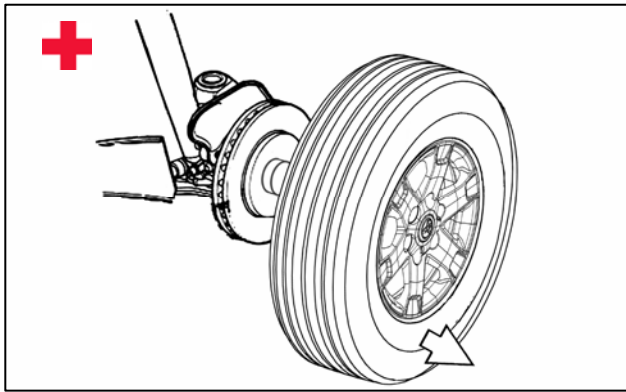

Figure 4
- +** (d) Remove OE wheel and tire assemblies from the vehicle. Wear safety glasses while removing wheels. See Figure 4.